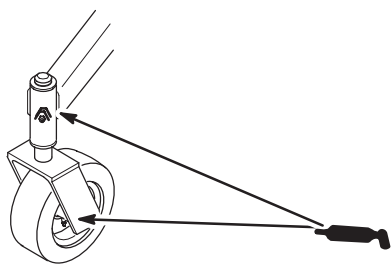

Figure 26
1. Lubricate the front and back wheel bearings and front spindles until grease begins to ooze out of the bearings (Fig. 26).